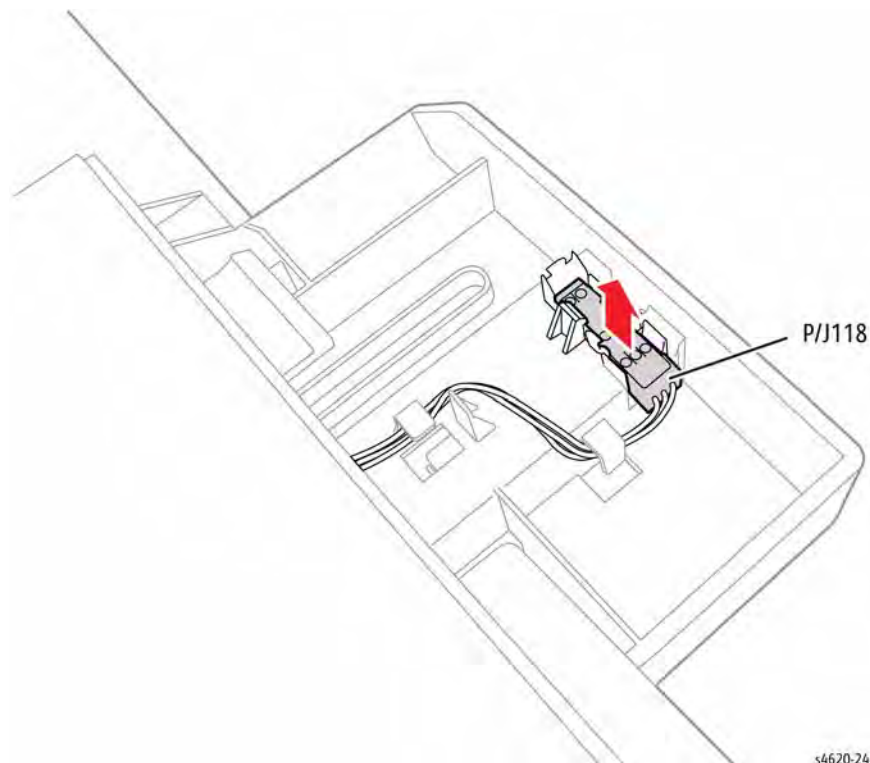

Figure 1 Remove the Left Tamper Home Position Sensor
3. Release the hook and disconnect P/J118 to remove the sensor., Figure 1.